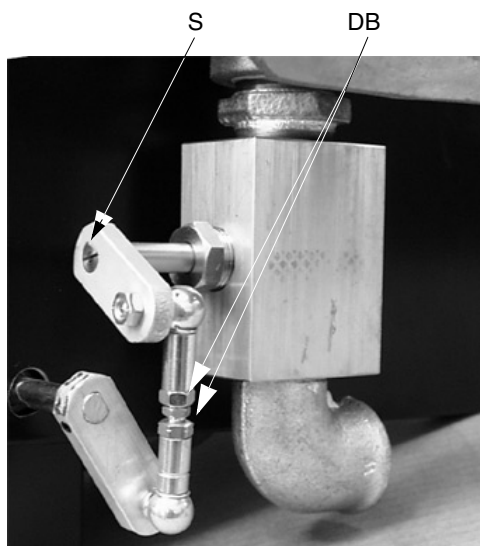
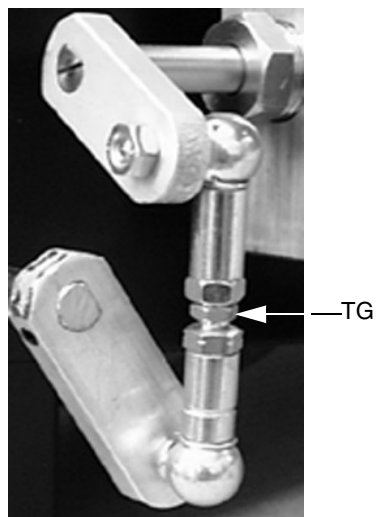

Fig. 13a
Fig. 13b
- 1 Bring the burner to low flame. To adjust the gas flow-rate loosen the nuts DB (Fig. 13a) and adjust the angle of opening of the butterfly valve by turning the stud TG (Fig. 13b); turning it clockwise increases the gas flow-rate, anticlockwise decreases it. The slit (S in Fig. 13a) on the pin of the butterfly valve indicates the angle of opening in reference to the horizontal axis.